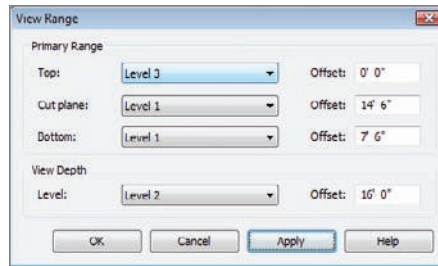

FIGURE 9.16 Configuring the View Range for the crop region
5. Set View Depth Level to Level 2 with an Offset value of 16'-0" (see Figure 9.16).